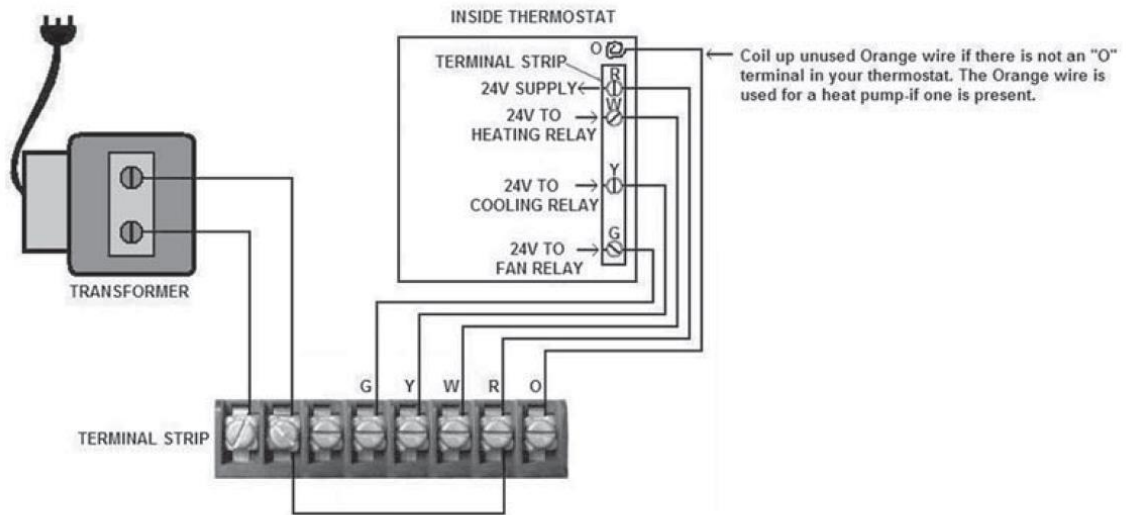

Figure 2 ■ Wiring Diagram
3. Carefully examine the wiring diagram in Figure 2.
8. Follow the thermostat wiring codes shown in Figure 2 and wrap the wire ends around the terminal screws in the direction of screw tightening.